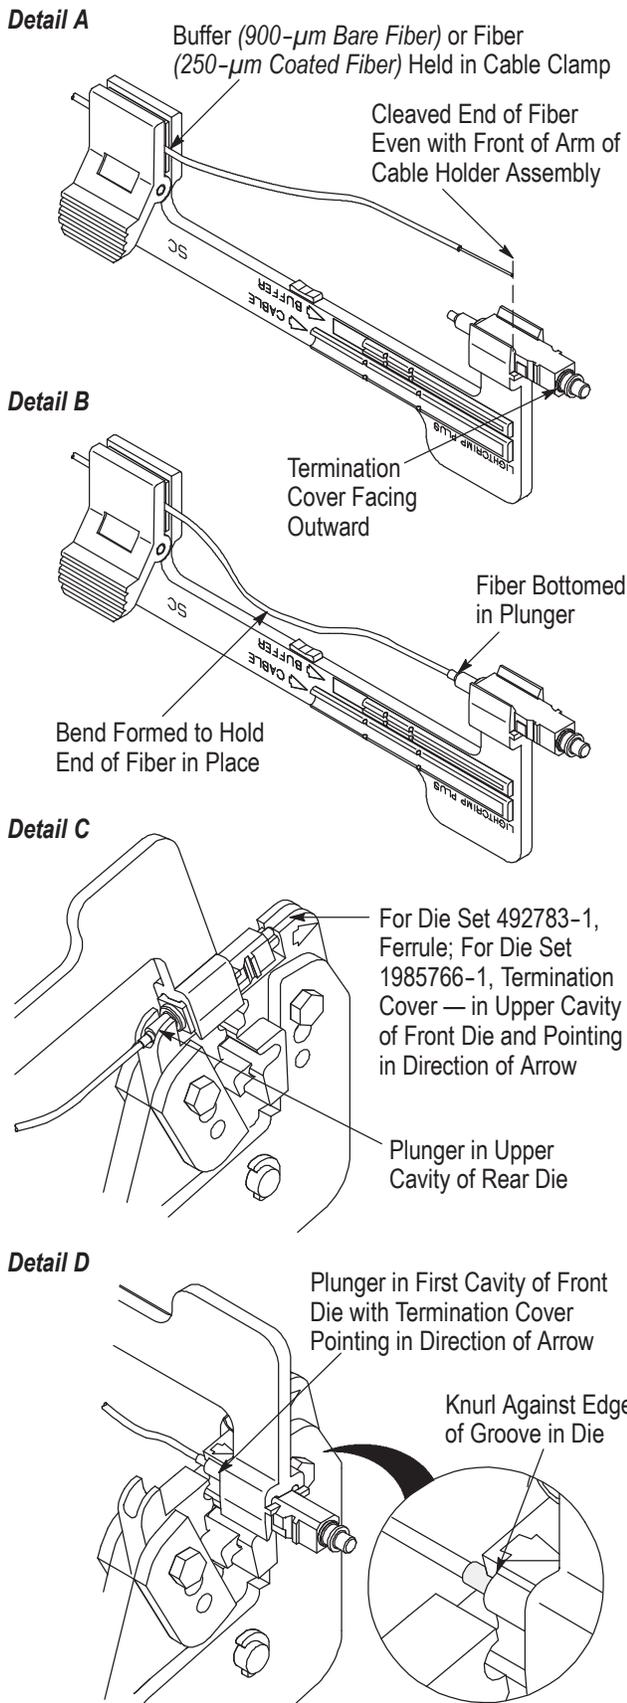

Figure 5: Crimping
9. Slide the bare buffer boot over the plunger until the boot butts against the connector assembly. See Figure 5, Detail A.
11. Align the key of the connector housing with the chamfered edges of the connector assembly. Slide the housing over the assembly until it snaps in place. See Figure 5, Detail B.